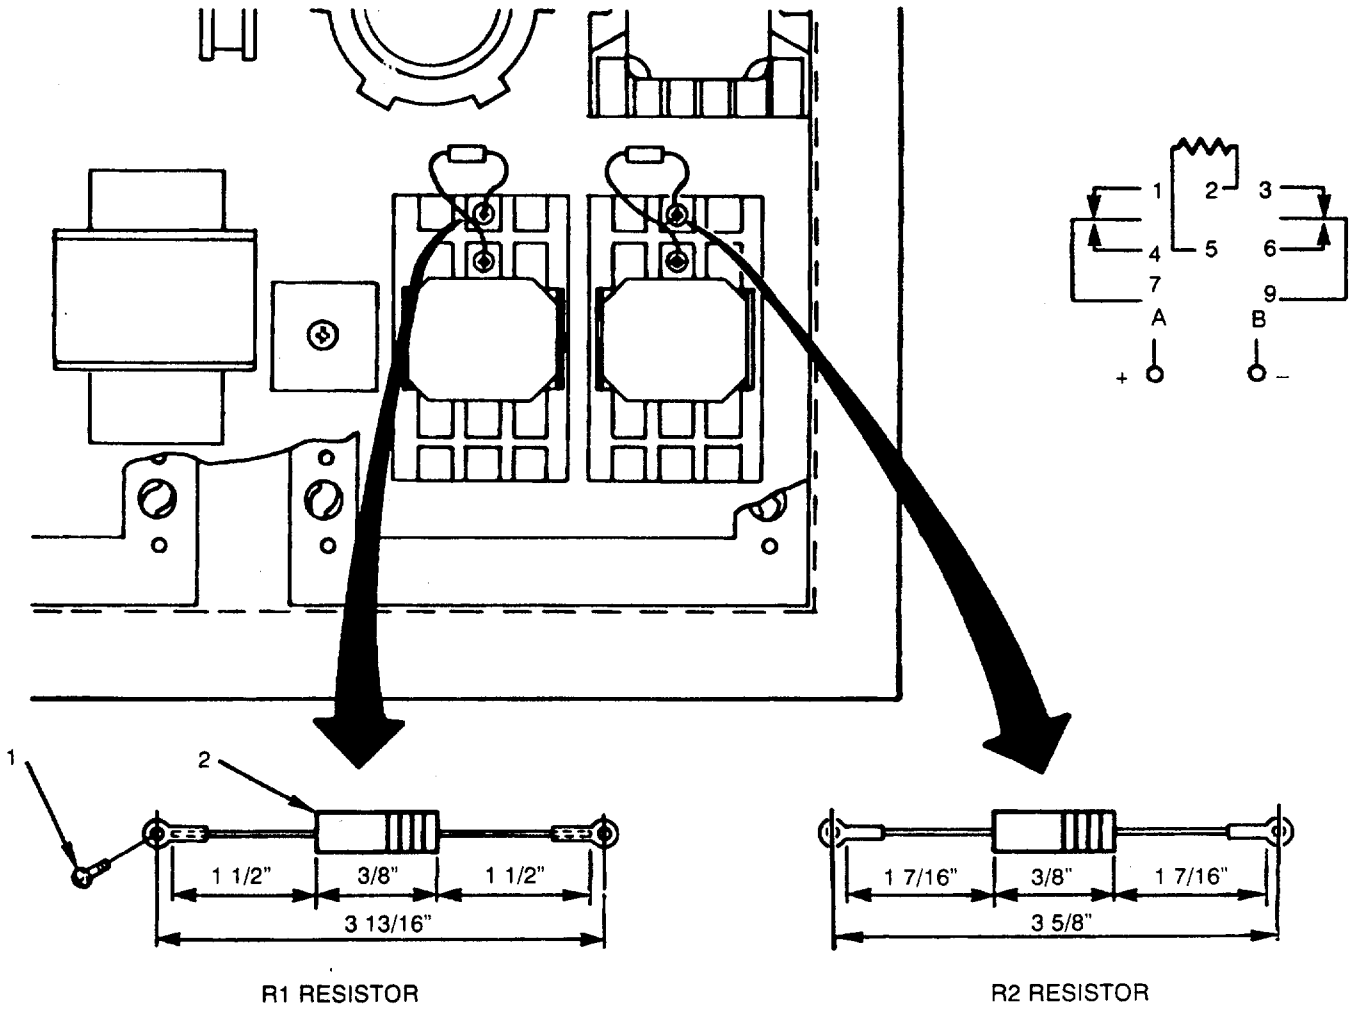

Figure 4-58. Resistors (R1 and R2)
1. Check for loose wire connections (see Figure 4-58).